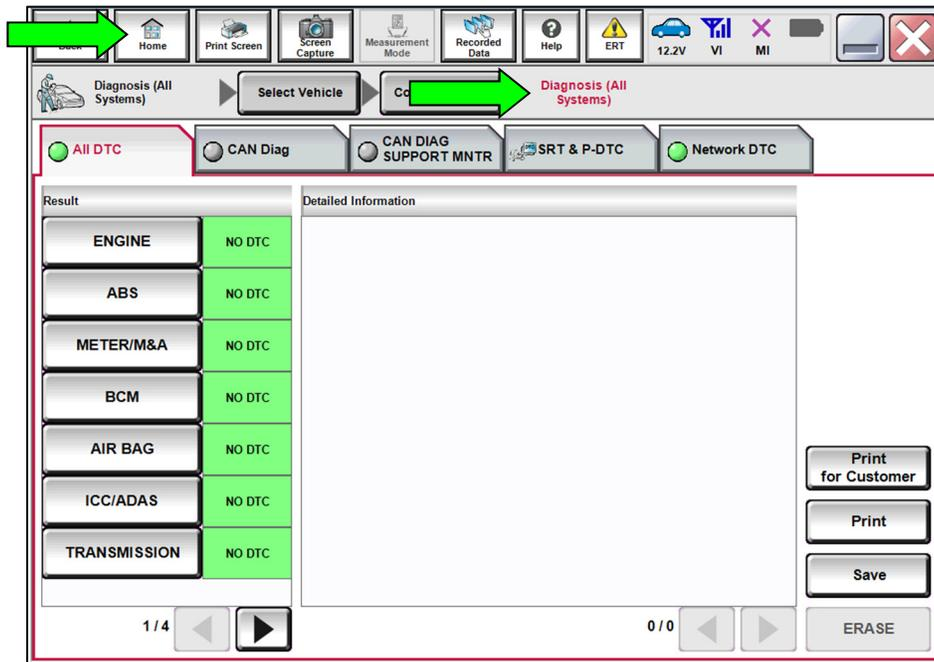

Figure 9
17. Select **Diagnosis (All Systems)**, where shown in Figure 9.